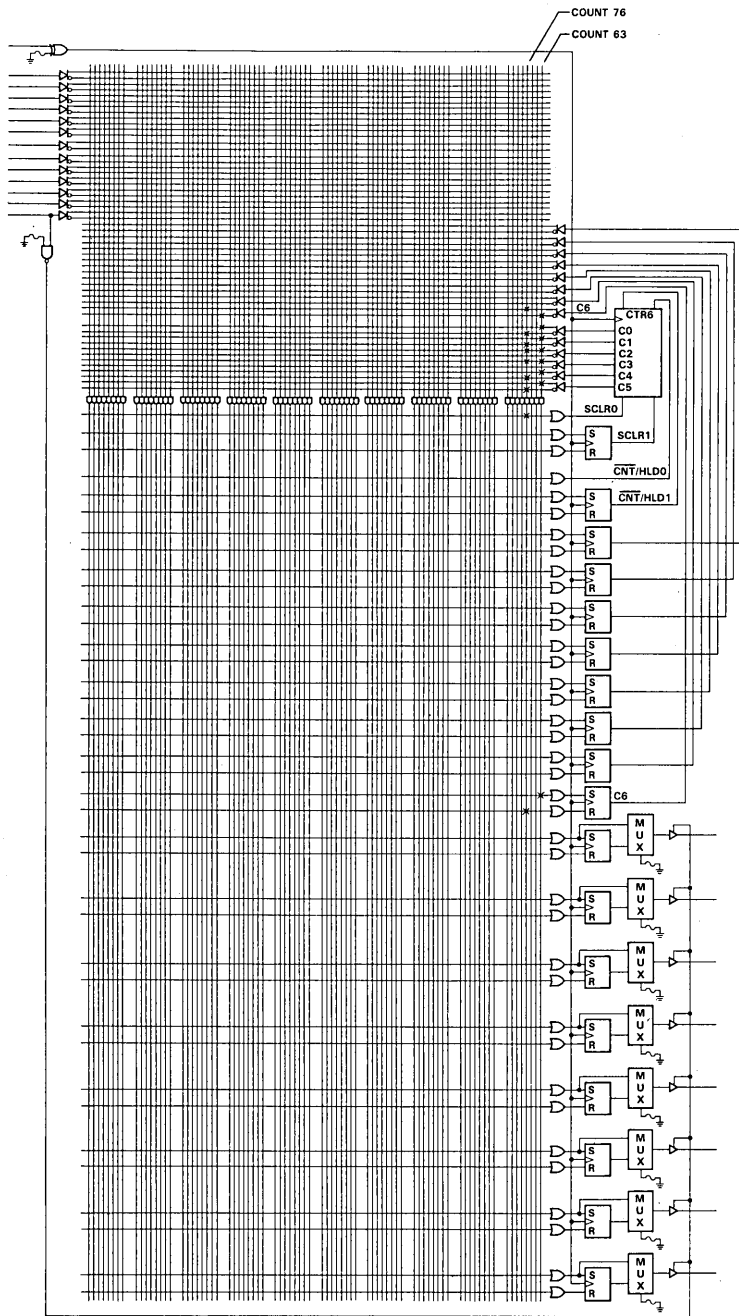

Figure 6. Expanding to 7-Bit Binary Counter
In order to generate a refresh request every 77 clock cycles, a 7-bit counter is required. Since the internal counter of the PSG is 6 bits, one of the state holding registers is required to expand the counter to 7 bits. As shown in Figure 6, only two product terms are required to expand to 7 bits; one product term to set the register when the 6-bit counter reaches its full count (63), and one product term to reset the register after count 76. Since both the binary counter and the added register need to be reset after count 76, a single product line can be used for both. (For additional details on expanding the 6-bit counter of the PSG, see the designer notes at the end of this application report.)